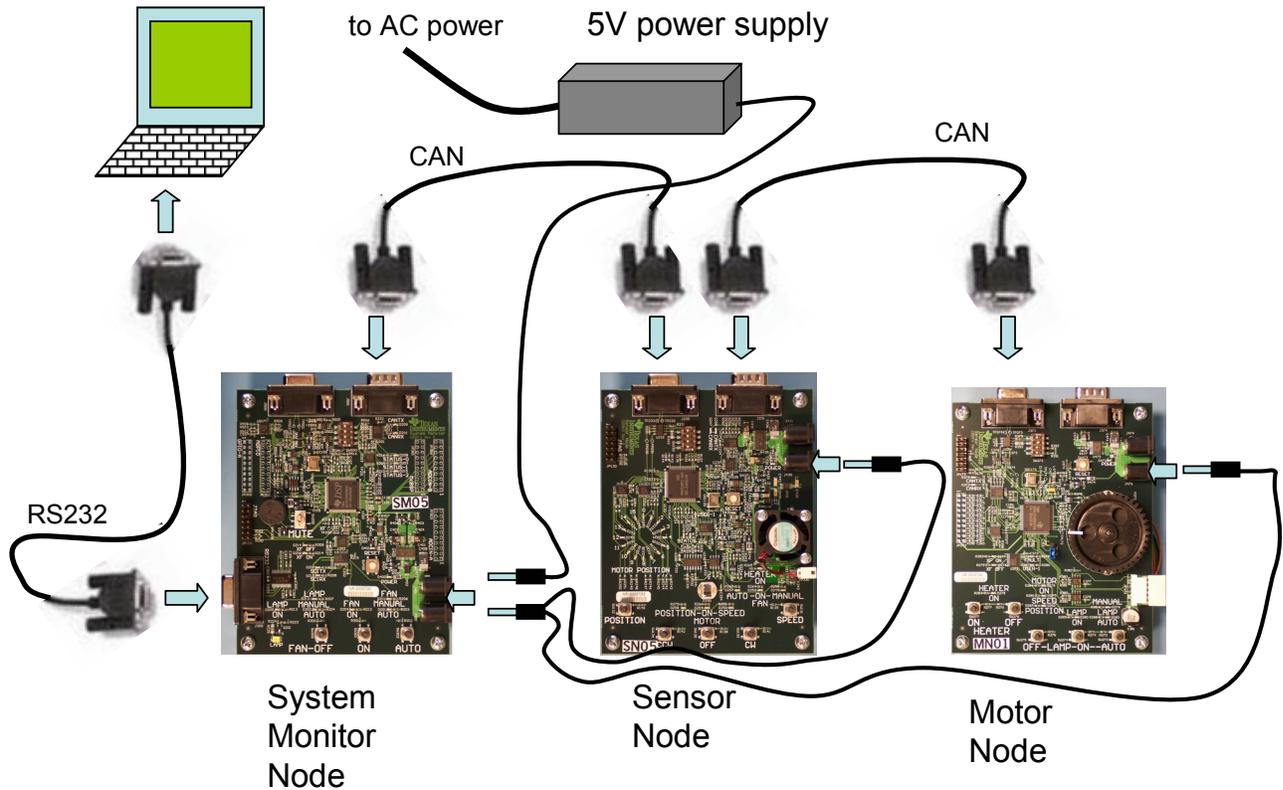

Figure 1. Typical connection of platform
2. Orient the three boards as shown in Figure 1. Place them on your work surface so that the System Monitor board is at the left, the Sensor board in the middle, and the Motor board on the right.